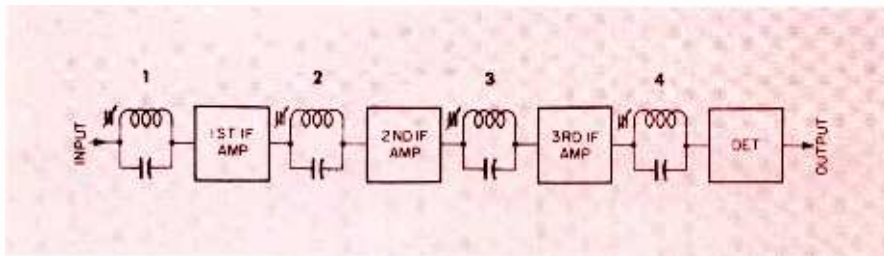

Fig. 1. Typical cascaded IF strip with four tuned circuits.
A cascaded amplifier circuit consisting of three stages and four tuned circuits is illustrated in Fig. 1. A signal must pass through each stage in turn, so misalignment in any one of the stages could distort the signal appearing at the detector. Fig. 2 illustrates some of the conditions which prevail when the different stages are misaligned. In Fig. 2A all tuned circuits are properly aligned and each stage responds to the same 7.5-kHz band. In Fig. 2B the last two tuned circuits are misaligned—the third is tuned too low and the fourth too high. The shaded portion of the curve shows the range of frequencies cut off. If a sweep generator is connected to the input and an oscilloscope to the detector output, a waveshape similar to the unshaded portion of (B) will be seen. As the fourth tuned circuit is readjusted toward the proper frequency, the right side of the waveform will move to the left. Upon reaching the proper position relative to the rest of the curve, the waveshape on the scope will appear as in Fig. 2C. Adjusting the third tuned circuit in Fig. 2B will move the left side of the waveform to the right and produce the desired over-all response curve. In Fig. 2C only one stage is misaligned, but the result is almost as pronounced as in B since all frequencies above 3,500 Hertz are cut off. By judiciously adjusting the tuned circuit, we can move the response curve up in fre-